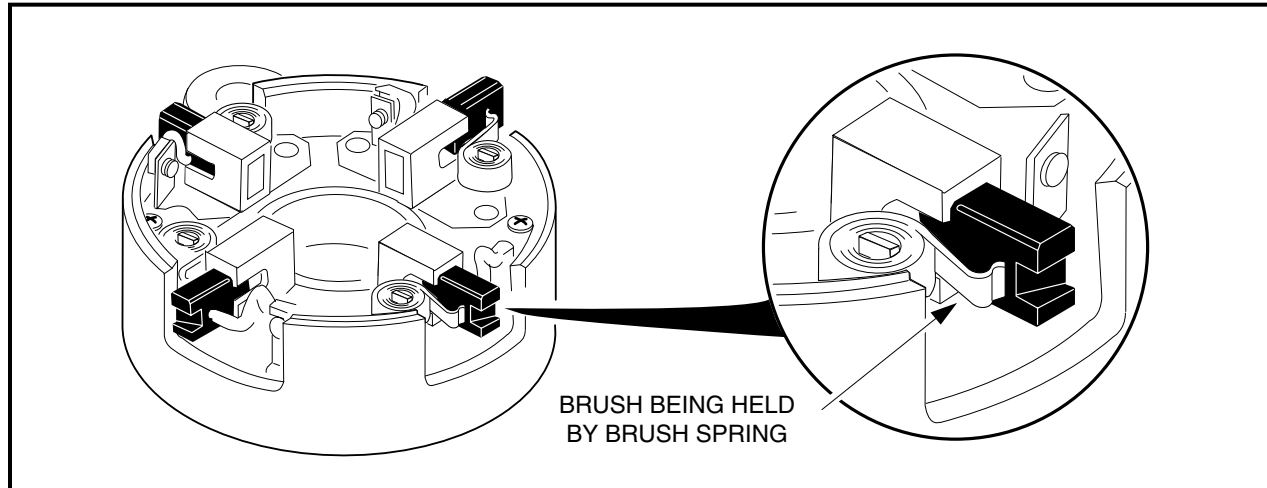

Figure 12-7 Pull Brushes Away from Center of the Commutator End Cover
**NOTE:** If the brushes are not removed, contact between the brushes and commutator as the commutator end cover is being removed or installed could damage the brushes. Lift the brush springs out of the notches in the brushes and pull the brushes back from the center of the commutator end cover. The springs will rest on the sides of the brushes and help prevent them from sliding towards the center of the cover (**Figure 12-7, Page 12-6**).
2. To prevent contact between the brushes and commutator as the commutator is installed, and possible damage to the brushes, lift the brush springs out of the notches in the brushes and pull the brushes back from the center of the commutator end cover. The springs will rest on the sides of the brushes and help prevent them from sliding towards the center of the cover (**Figure 12-7, Page 12-6**).
- 1.1. Lift the brush springs out of the notches in the brushes and pull the brushes back from the center of the commutator end cover. The springs will rest on the sides of the brushes and help prevent them from sliding towards the center of the cover (**Figure 12-7, Page 12-6**).
8. To prevent contact between the brushes and commutator as the commutator cover is installed, and possible damage to the brushes, lift the brush springs out of the notches in the brushes and pull the brushes back from the center of the commutator end cover. The springs will rest on the sides of the brushes and help prevent them from sliding towards the center of the cover (**Figure 12-7, Page 12-6**).